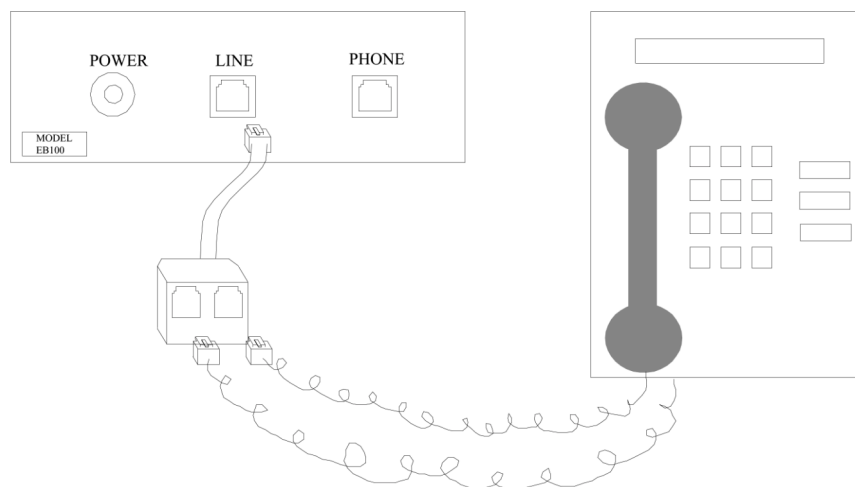
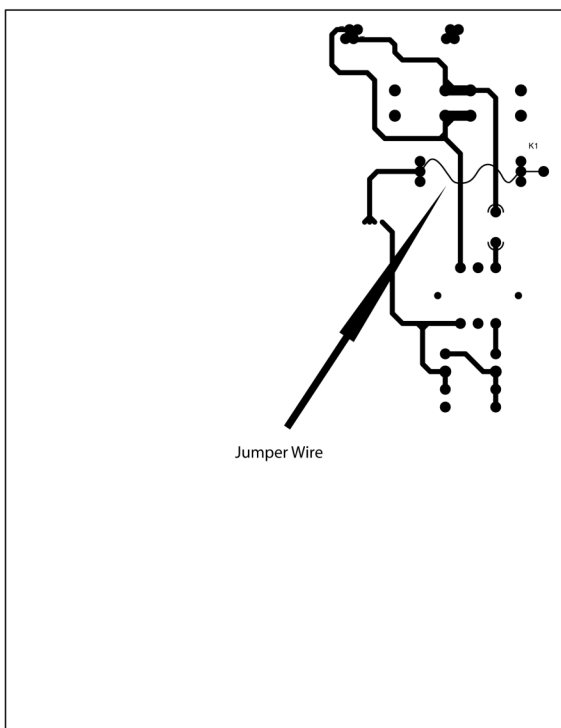

Figure 1. Connecting the Base Station to a digital phone handset
Figure 2. Connecting the jumper on the base station
If you are using a digital phone line, you must connect the Base Station in parallel with the phone handset instead of in series with the phone line (see Figure 1). In addition, you will have to have a jumper connected on the bottom of the Base Station (see Figure 2).
4. You may already have the required jumper connected to your base station. Once the rest of the installation is complete, test out the EB-100 to see if the LED's light when you receive a call. If they do not, then you must connect the jumper as shown in Figure 2.